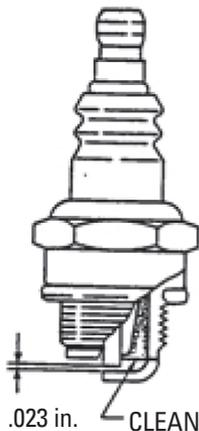

FIG.14
2. (FIG. 14) Spark Plug - Clean and re-gap the spark plug after every twenty-five hours of operation. Before removing plug clean around plug base to prevent foreign material from entering the cylinder when the plug is removed. Set spark plug gap at .023 in. or 0.6mm.